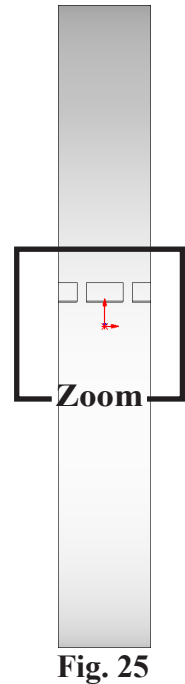

Fig. 25
Step 5. Zoom in around the Origin  , **Fig. 25**.